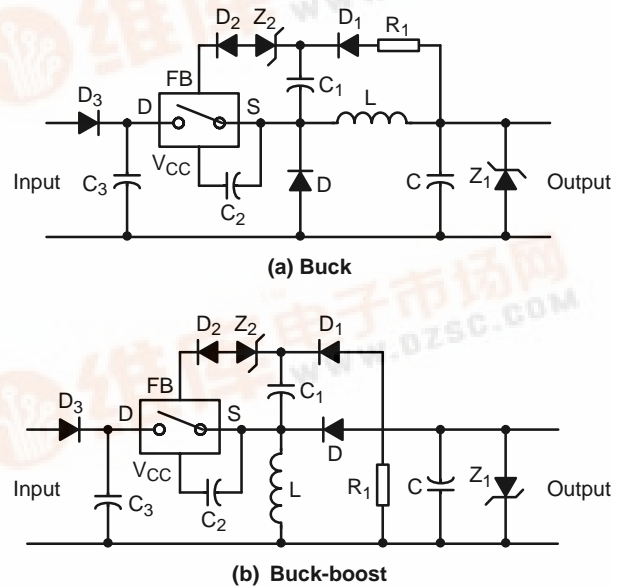

Figure 1. Proposed Circuit Using NCP1052
Figure 1 shows the proposed buck and buck-boost converters. The rectifier circuit, which consists of capacitor C_3 and diode D_3 , is in the front end for AC or DC input voltage. Then, the NCP1052 is self-powered up from the rectified input voltage directly with a V_{CC} capacitor C_2 . When the switch inside the IC is opened, there is a voltage across Drain (D) and Source (S) pins of the IC. If this voltage is greater than 20 V, an internal current source $I_{start} = 6.3$ mA (typ.) inside the IC charges up C_2 and a voltage in C_2 is built up for the operation of the IC. Comparing to the switching frequency, the V_{CC} voltage level is in a lower-frequency 7.5-8.5 V hysteresis loop. This V_{CC} hysteresis loop is for frequency jittering features to minimize EMI and short-circuit fault timing function.
output voltage will rise up dramatically and burn the output capacitor eventually. Hence, a zener diode Z_1 or minimum “dummy” load resistor is needed to consume the minimum amount of energy as shown in Figure 1. It is also noted that when R_1 pulls up the output voltage at a given output current condition, the output voltages at lower output current conditions are also pulled up. Hence, the clamping zener diode Z_1 is needed to be with the breakdown voltage as same as the output voltage but it will reduce some of the efficiency at lower output current conditions.
As shown in Figure 9, a 2 inch by 1.5 inch small surface-mount demo board of 12 V / 100 mA buck is presented. The design is made on a single-sided board. The bill of material is shown in Table 2. The component symbols are those in Figure 1. In order to have sufficient startup ability, the V_{CC} capacitor is 6.8 μ F which gives a 3.4 ms fault sampling time. Because of this feature, the circuit enters fault mode when output current exceeds 200mA after startup as shown in Figure 10(b). The efficiency of the circuit is typically 65% at 100 mA.